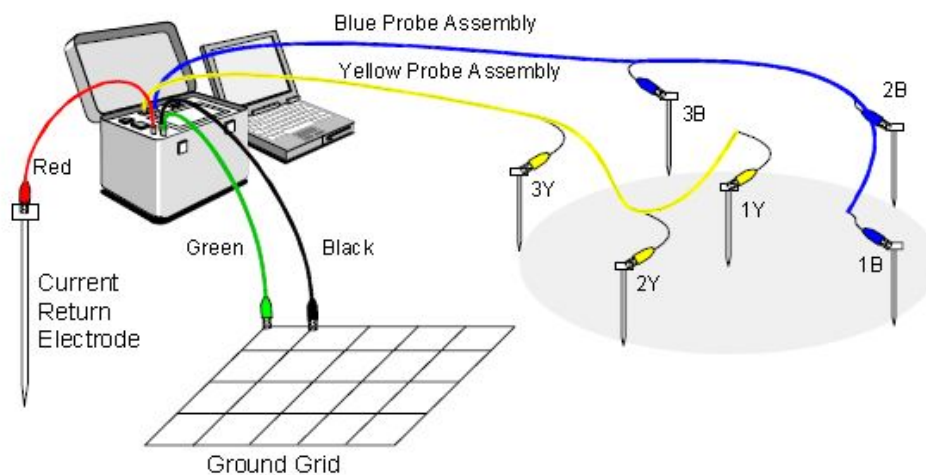

Figure.9. Standard Probe Arrangement for Step Voltage Measurements
This section illustrates the procedure for performing step voltage measurements with the SGM. The general configuration of the SGM setup is illustrated in figure.9. Step-by-step instructions for setting up and performing this measurement are given next.
1. Install the voltage probe assemblies Y (yellow) and B (blue) and the current return electrode (see note above). Use the standard arrangement ST1, which is illustrated in Figure 9. Note that voltage probe 1Y is placed at the location where the step voltage is to be measured and the remaining voltage probes are arranged in a circle around voltage probe 1Y with radius about 3 feet. The current return electrode should be a distance of at least 2.0 times the